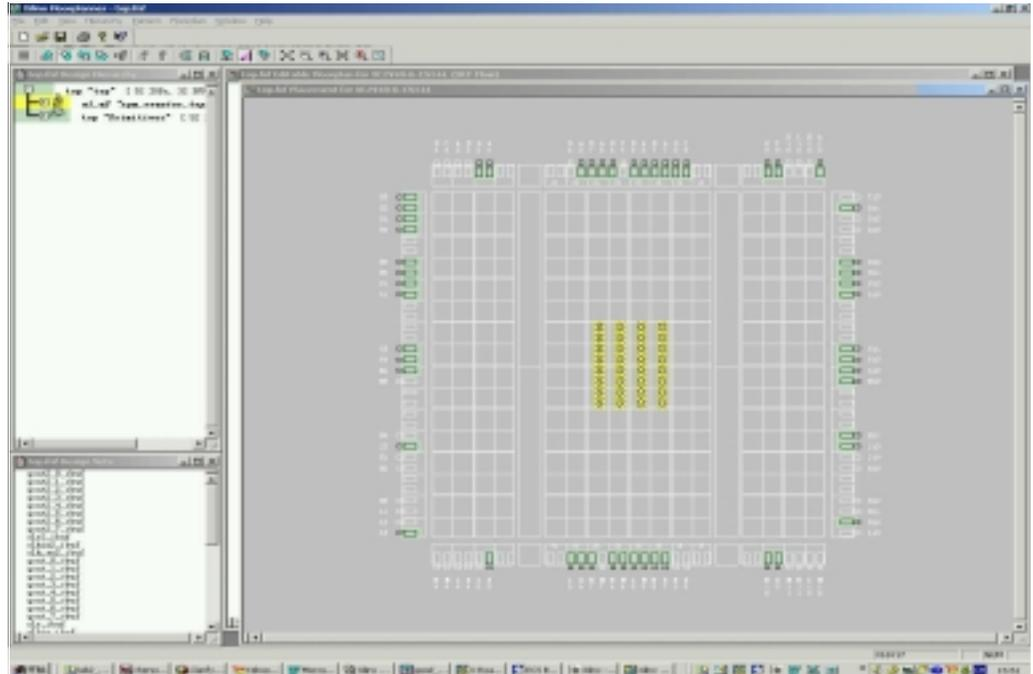

Figure 7: Implemented View of Multiple RPM Instantiation by Modifying UCF File
- Implement Design and double click on *View/Edit Placed Design (Floorplanner)* under *PAR* in the process window to verify the design has been implemented correctly (Figure 7).